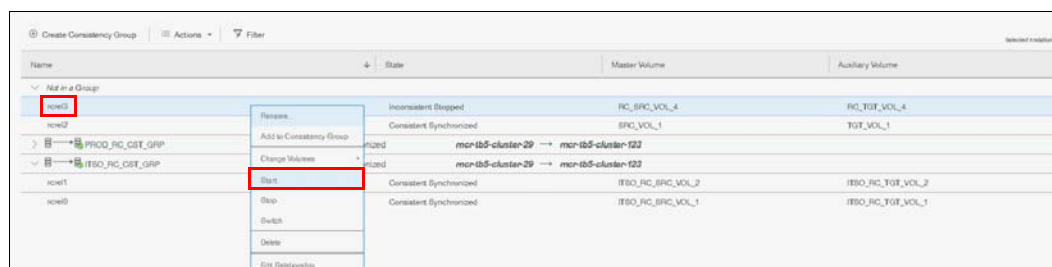

Figure 10-132 Starting the remote copy process
4. Click **Actions** → **Start** to start the remote copy process, as shown in Figure 10-132.